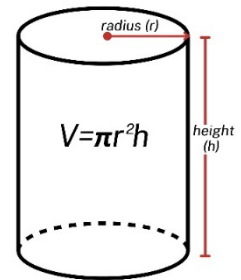

Figure 16 Collect a soil core sample.
1. Collect a soil core sample by driving the steel ring into the soil using the wooden block and mallet. Hammer the ring until the top is level with the soil surface. See Figure 16.